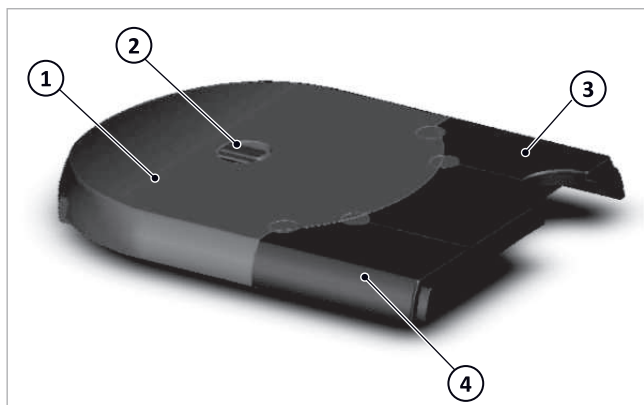
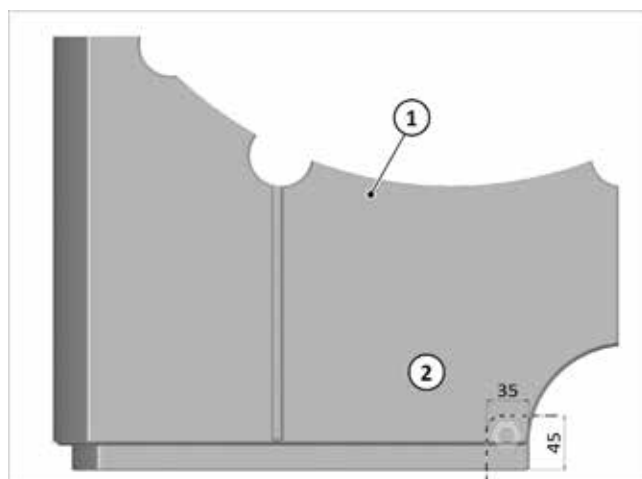

Fig. 123: Top SolvisBen insulation
Fig. 127: Cutting the inlet for the gas line if necessary
1. Take off the top insulation sections for the hot water station → fig. 123 (4) and heating circuit station → fig. 123 (3) from the top.
2. Take the tank insulation → fig. 123 (1) and carefully cut off the four foam plugs along the grooved slot (6) on the hot water station (5) using a sharp knife.
3. **Only with an integrated heating circuit station:** Cut off the plugs for the heating circuit station (7) along the slots (8).
4. Place the top tank insulation → fig. 123 (1) on the tank.
- On the left and right side (1)
- In the middle at the rear (2)
- In the middle at the front (3)
6. Attach the top insulation for the hot water station → fig. 123 (3).
7. When routing the gas line at the top, cut the top insulation for the hot water station (1, see also → fig. 123 (4)) as shown in → fig. 127 (or in the supplied template) before attaching it.
- Completely install the assembled top insulation → fig. 123 (1+2+3+4) on the tank.